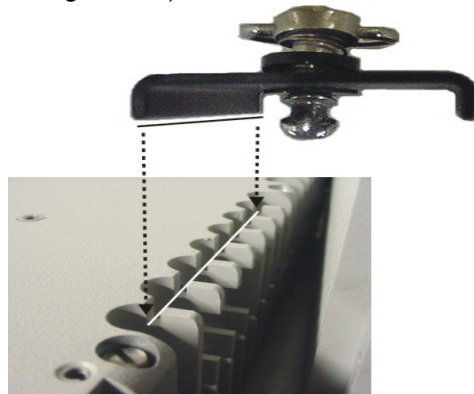

Figure 3-5: Installing the Mounting Brackets
3.2.5 Properly orient the bracket (*bracket mounts only one way*) and insert one edge of the bracket into the grooves (*on one side of the ChannelMaster*), ensuring that the bracket's fastener aligns with its associated mounting hole. (Refer to Figure 3-5.)